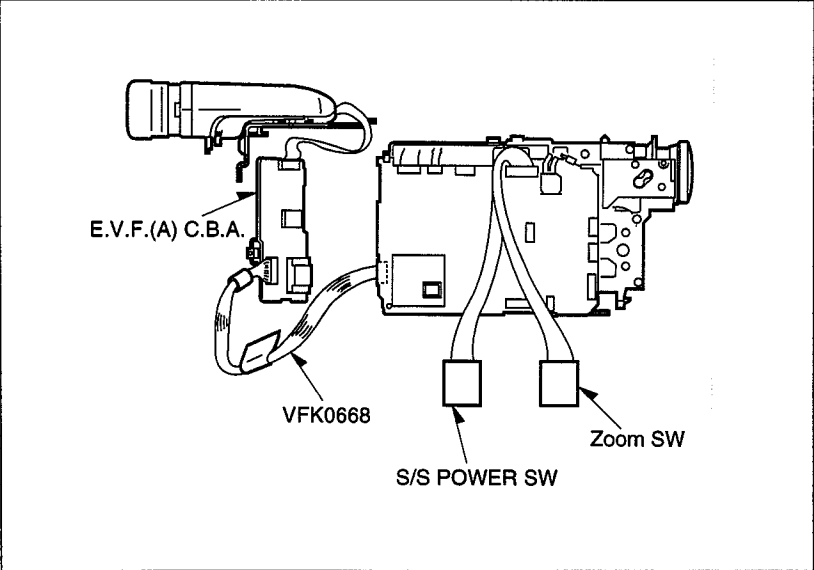

Fig. E1
- (A). Remove the Casing panels.
- (B). Connect the Viewfinder to unit with Extension Cable VFK0668(24Pin).
- (C). The camera unit must be completely aligned before viewfinder adjustment.
- ⇒Please Refer to Fig.E1